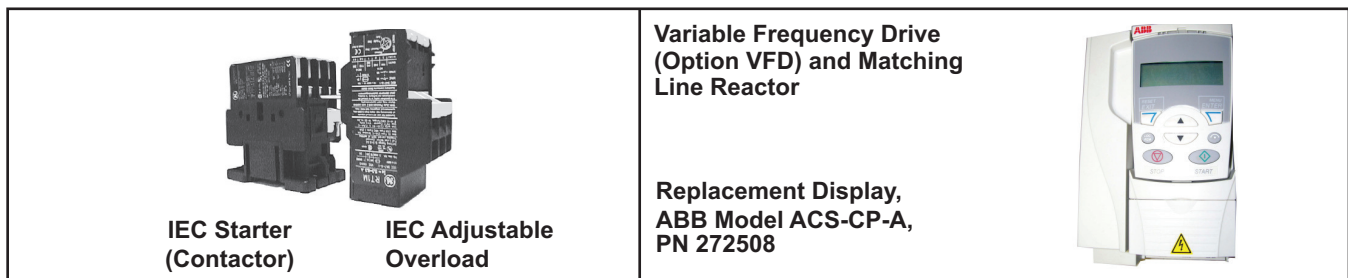

Figure 20. IEC Starter and Overload and Variable Frequency Drive with Replacement Display
- Variable frequency drives (option VFD) and their corresponding line reactors are shown in Figure 20 and listed in Table 33.